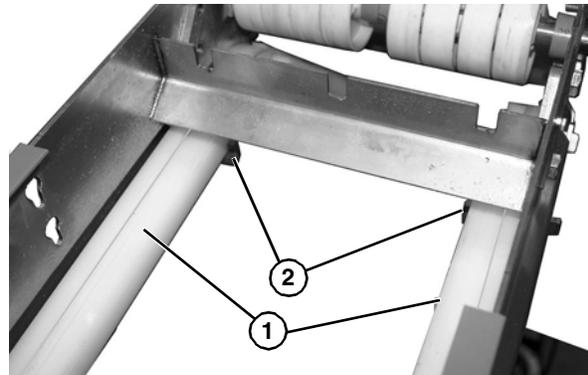

Figure 35
- Install belt return (**Figure 35, item 1**) onto mounting bracket (**Figure 35, item 2**).